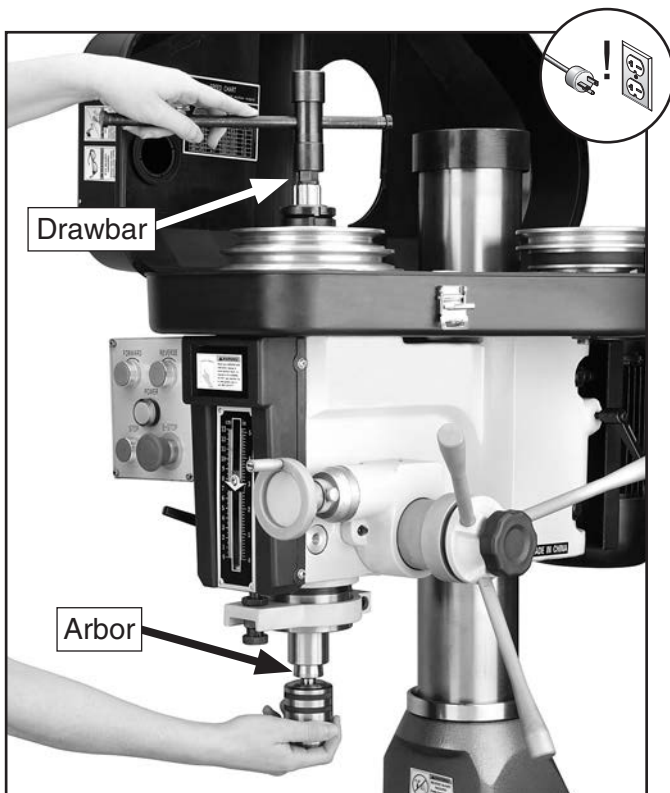

Figure 36. Collet/arbor installation.
5. Turn the hex head at the top of the drawbar (located on the top, front of the head) clockwise, as shown in **Figure 36** until the threads at the bottom of the drawbar mesh with the female threads in the top of the collet/arbor.